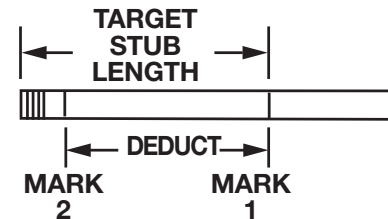

Figure 23
2. Make MARK 2 by measuring the DEDUCT (Table 2) from MARK 1 towards the threads. (Fig.23) The distance between MARK 2 to the end of the conduit cannot be less than the MIN. STUB LENGTH.